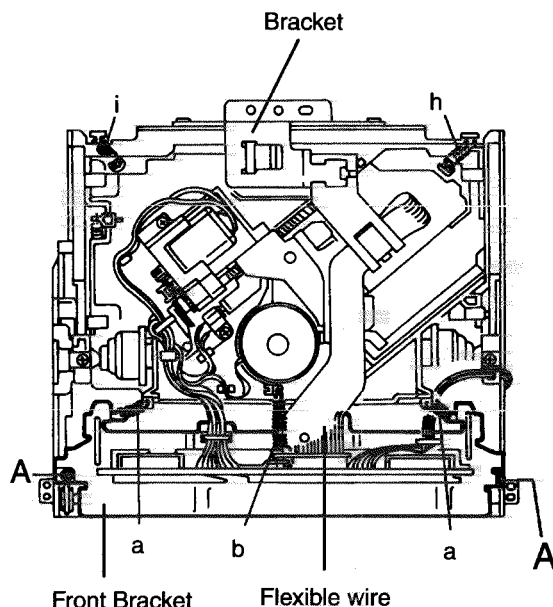

Fig.1
- 2.Remove the three springs a and b from behind the CD mechanism assembly(See Fig.1).
(See Fig.1).
- 6.Remove the two screws A retaining the front bracket for fixing the CD mechanism control P. C. board(See Fig.1).